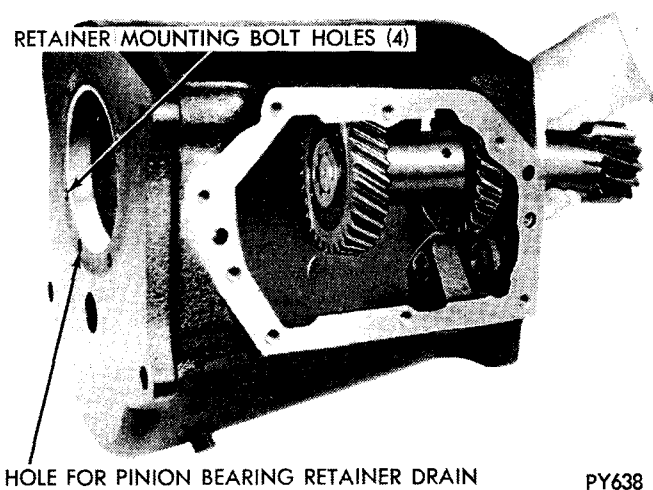

Fig. 14—Removal or Installation—Countershaft Gear and Arbor Assembly
(6) Lift countershaft gear and arbor assembly out through rear of case (Fig. 14).
(7) Carefully place countershaft gear assembly in position in bottom of transmission case (Fig. 14). **Do not finish installation with countershaft and key until drive pinion is installed.**